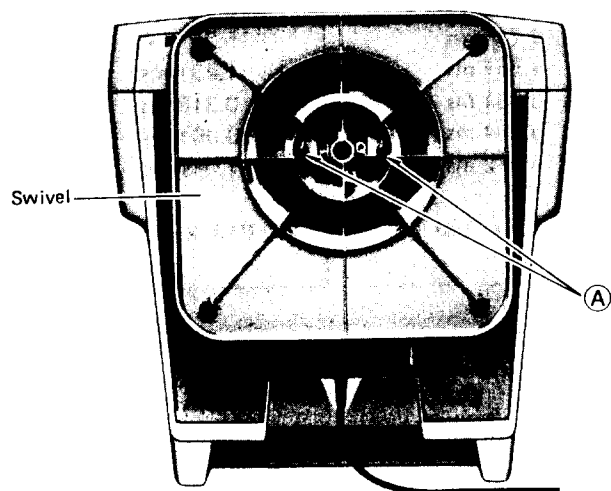

Figure 13
- Turn the unit rear side down with pedestal towards the front. (Figure 13)
- Remove 2 screws (A) from the swivel. (Figure 13)